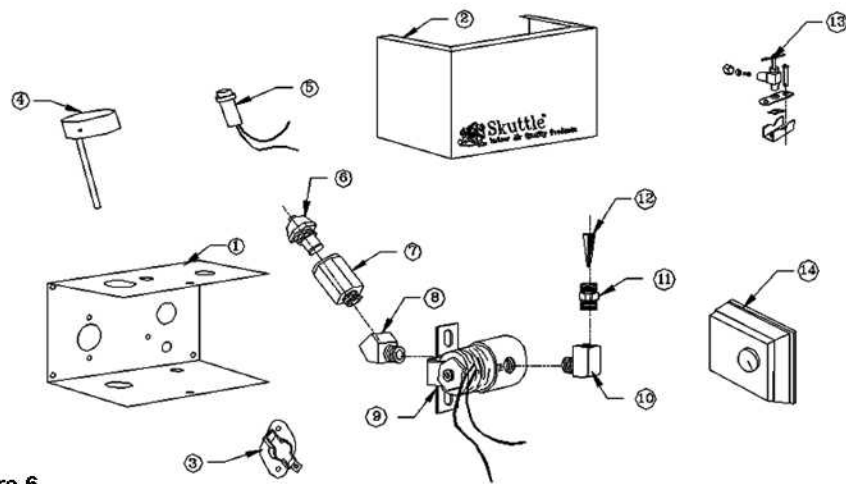

Figure 6
- 8.0 Parts may be ordered through your local heating or plumbing dealer. (See Figure 6, right, top).